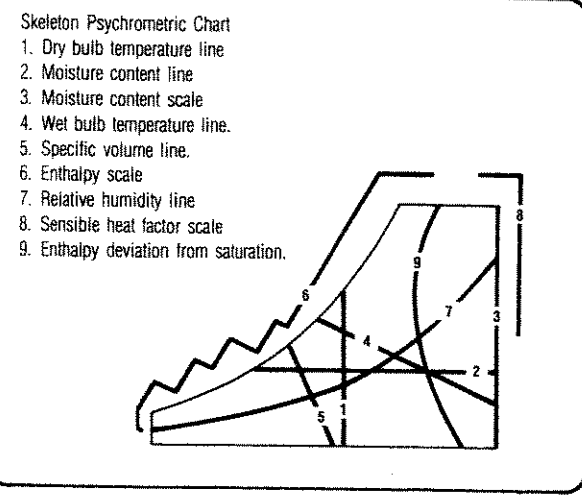

FIGURE 1
- The following definitions are referenced in Figure 1.